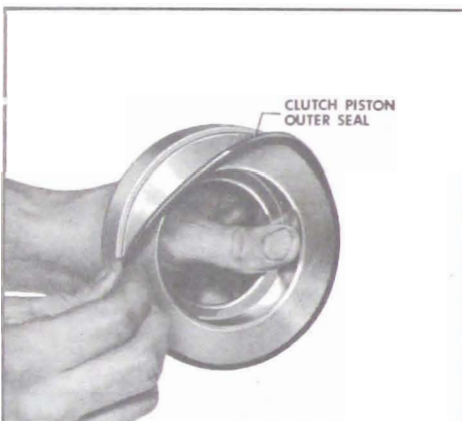

Figure 5-218
10. Examine forward clutch piston outer seal. If nicked, torn or worn, remove seal. See Figure 5-218.